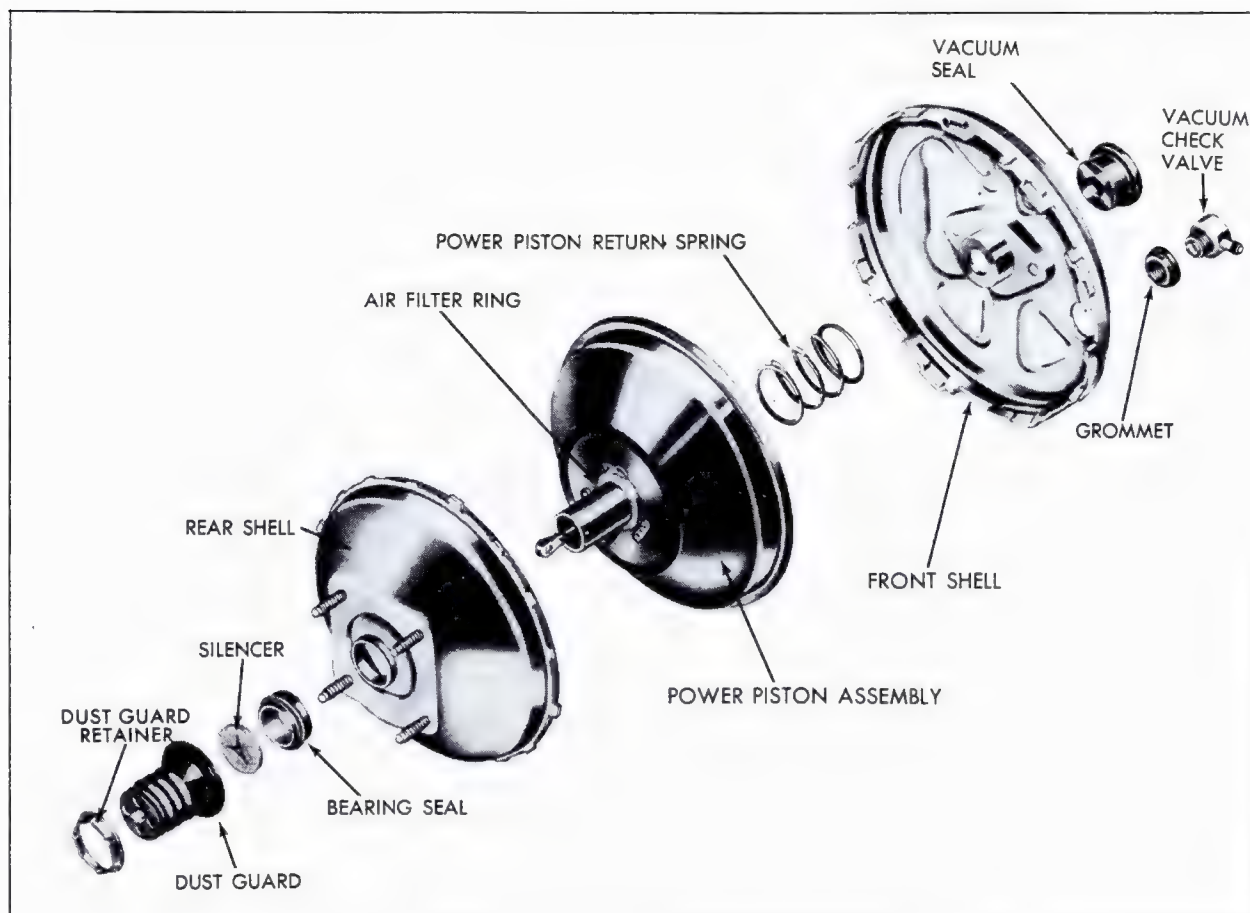

Fig. 5-21 Single Diaphragm Power Head Disassembled
5. Remove rear shell, power piston assembly and piston return spring, Fig. 5-21, from front shell.